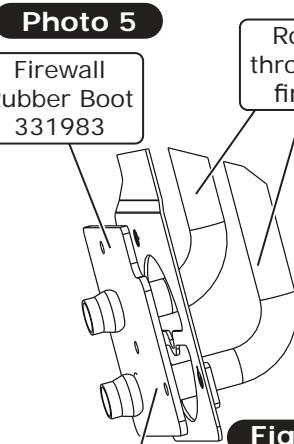

Figure 1
5. Install (2) 1/2" plastic plugs into the back mounting provisions as shown in Photos 5 and 6, below. **NOTE: These mounting locations will not be used for this application.**
6. Route the hardlines through the evaporator firewall bracket as shown in Photo 7 and Figure 1, below. Secure the bracket to the evaporator using the (2) #10 x 5/8" screws (See Figure 2, below).
7. Install (2) 1/4-20 full-threaded studs into the firewall bracket until it sits flush as shown in Photos 8 and 9, below.
8. Loosely install the firewall rubber boot onto the hardlines as shown in Figure 1 and Photo 8, below.